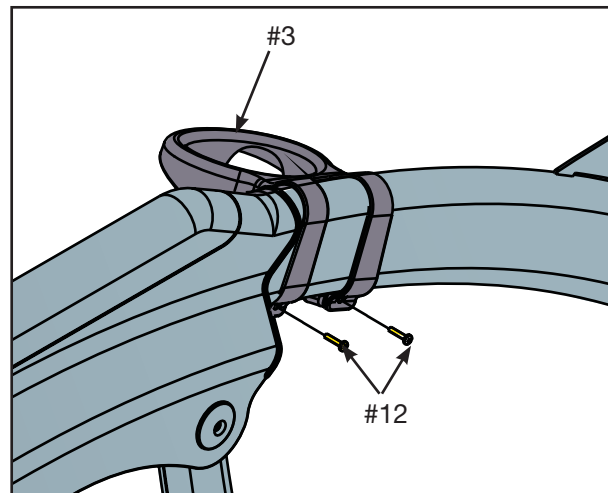

Figure 7
- C.** Using a Phillips head screwdriver, attach the water bottle holder (#3) to the frame with the two 8-16 x 0.75 screws (#12). See Figure 7. **NOTE:** Do not overtighten.